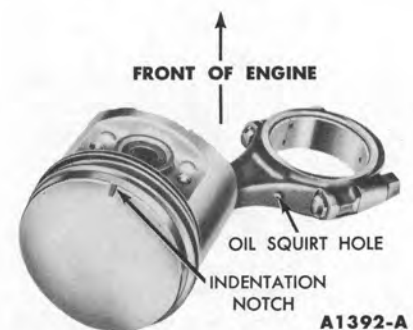

FIG. 59—Piston and Connecting Rod Assembly—Typical
1. Apply a light coat of engine oil to all parts. **Assemble the piston to the connecting rod with the oil squirt hole in the connecting rod and the indentation in the piston positioned as shown in Fig. 59.**